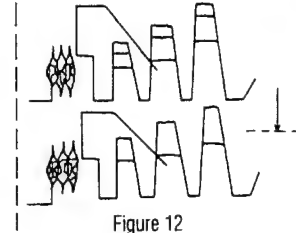

Figure 12
- 3— The gaps at speaks are adjusted so that they inserted as shown in Figure 12. Then check with 4.43 MHz section on Philips DEM pattern.